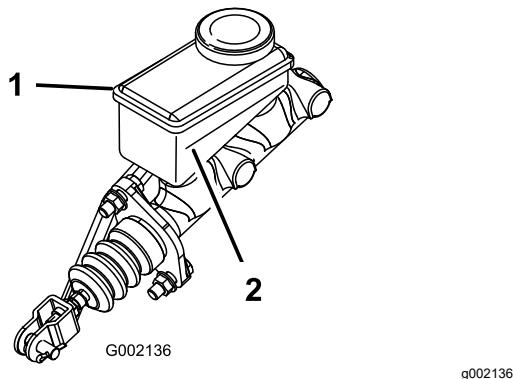

Figure 68
5. Look at the outline of the fluid level at the side of the reservoir (Figure 68).
- B. Add DOT 3 brake fluid to the reservoir until the fluid level is above the Minimum line (Figure 68).